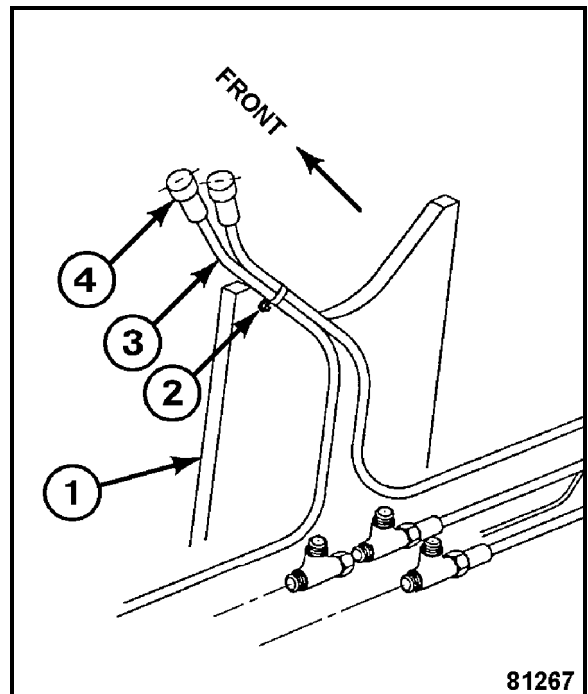

Figure 2
On the back side of tie plate (1, Figure 2) install 130096 clamp (2) around vent hoses (3) with 140483H bolt, 25534R1 flat washer, and 25522R1 hex nut.